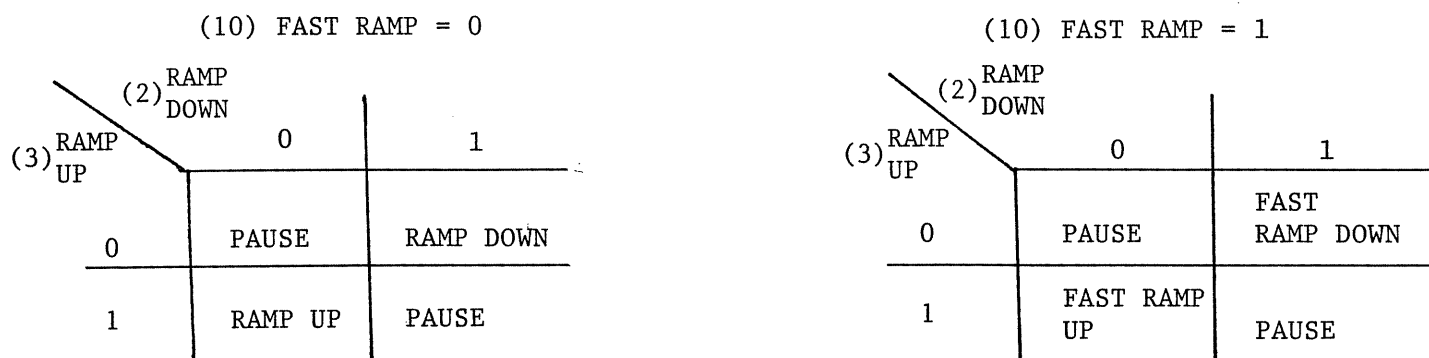

FIGURE 3-3 REMOTE Mode Charge Control Logic Diagram
Remote control of the front panel Charge Control switches is provided through terminals 2, 3 and 10 on the rear panel terminal strip of the supply. These three pins are compatible with standard Transistor-Transistor Logic (TTL) or can be driven by any other signal between zero (0) and five (+5) volts. A logic diagram indicating the functions of these three input lines is shown in Figure 3-3. A logic 0 corresponds to a  $\leq 0.8$  volt input and a logic 1 corresponds to a  $\geq +3.5$  volt input. Absolute maximum allowable voltages are 0 and +5 volts respectively.